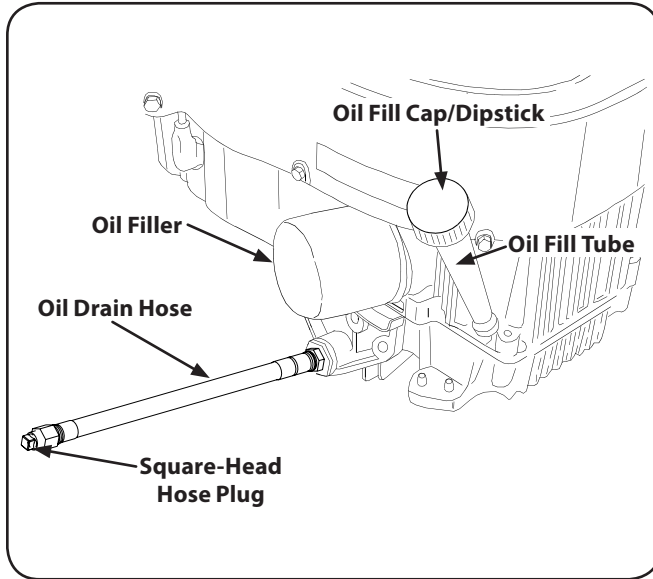

Figure 6-2
- If your engine has the oil drain hose setup in Fig. 6-2, see the Oil Drain Hose section below.
- While holding the free end of the oil drain hose over the oil collection container, unscrew the square head hose plug from the end of the hose. See Fig. 6-2. Drain the engine oil into the collection container.